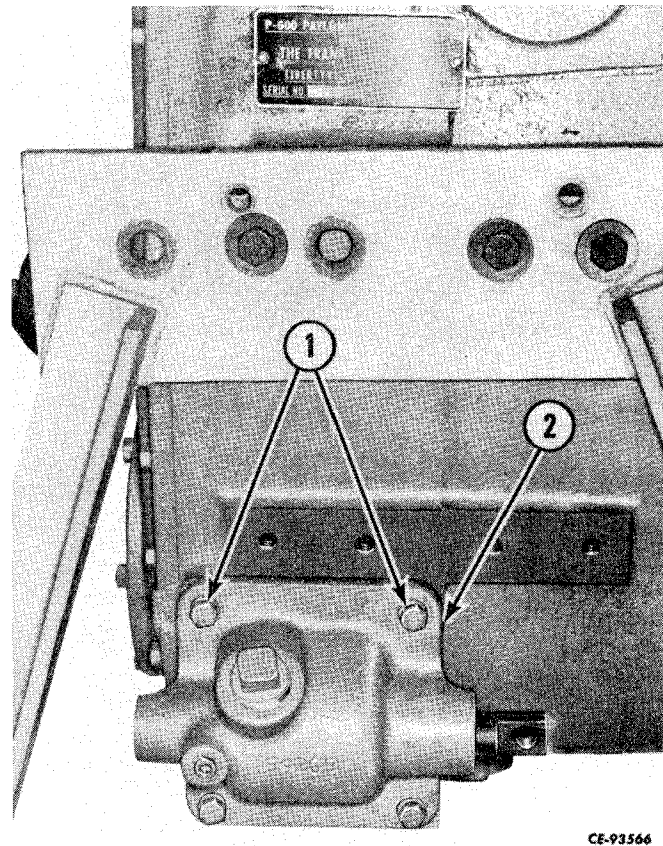

Figure 4-90
Install shifter housing (2, Fig. 4-90), be certain shifting fork is inserted in the slot of the sliding sleeve clutch, secure with cap screws (1). Tighten cap screws to recommended torque (refer to "SPECIAL TORQUES").